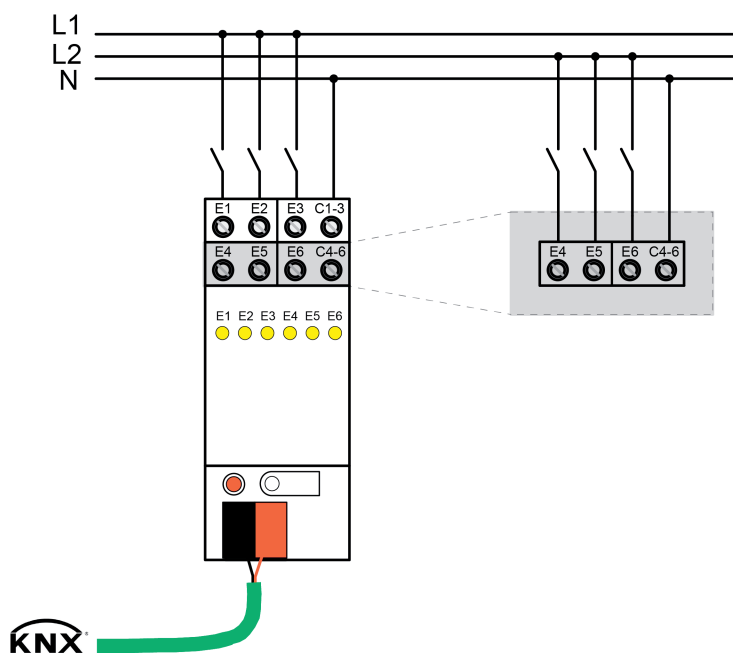

Figure 2: Connection mains supply circuits
- Connect FELV-supplied circuits as mains-supplied circuits according to the connection example (figure 2)Connecting .